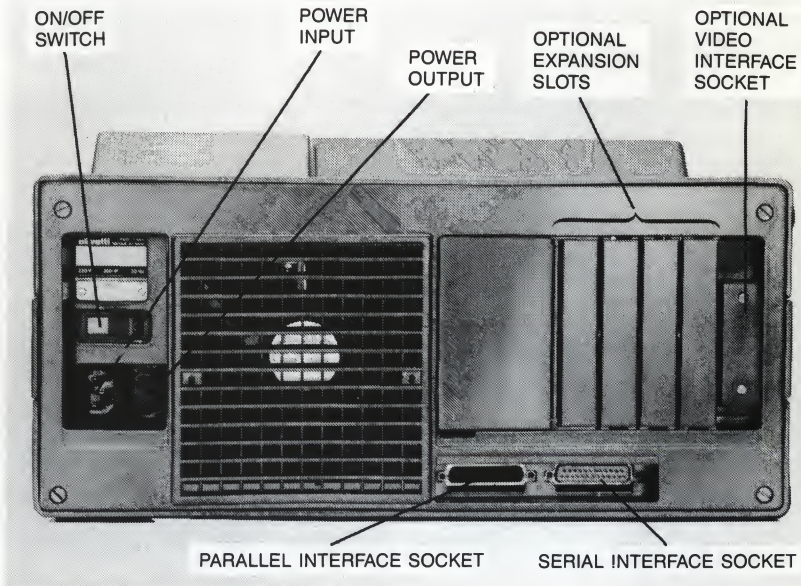

Fig. 2-4 The Back Panel
All external optional modules, such as printers, are connected through one of the sockets on the back panel. Each socket provides a different interface connection, as shown in Figure 2-4.
2. Insert the female plug of the AC power cable into the power input socket on the back panel (see Figure 2-4).